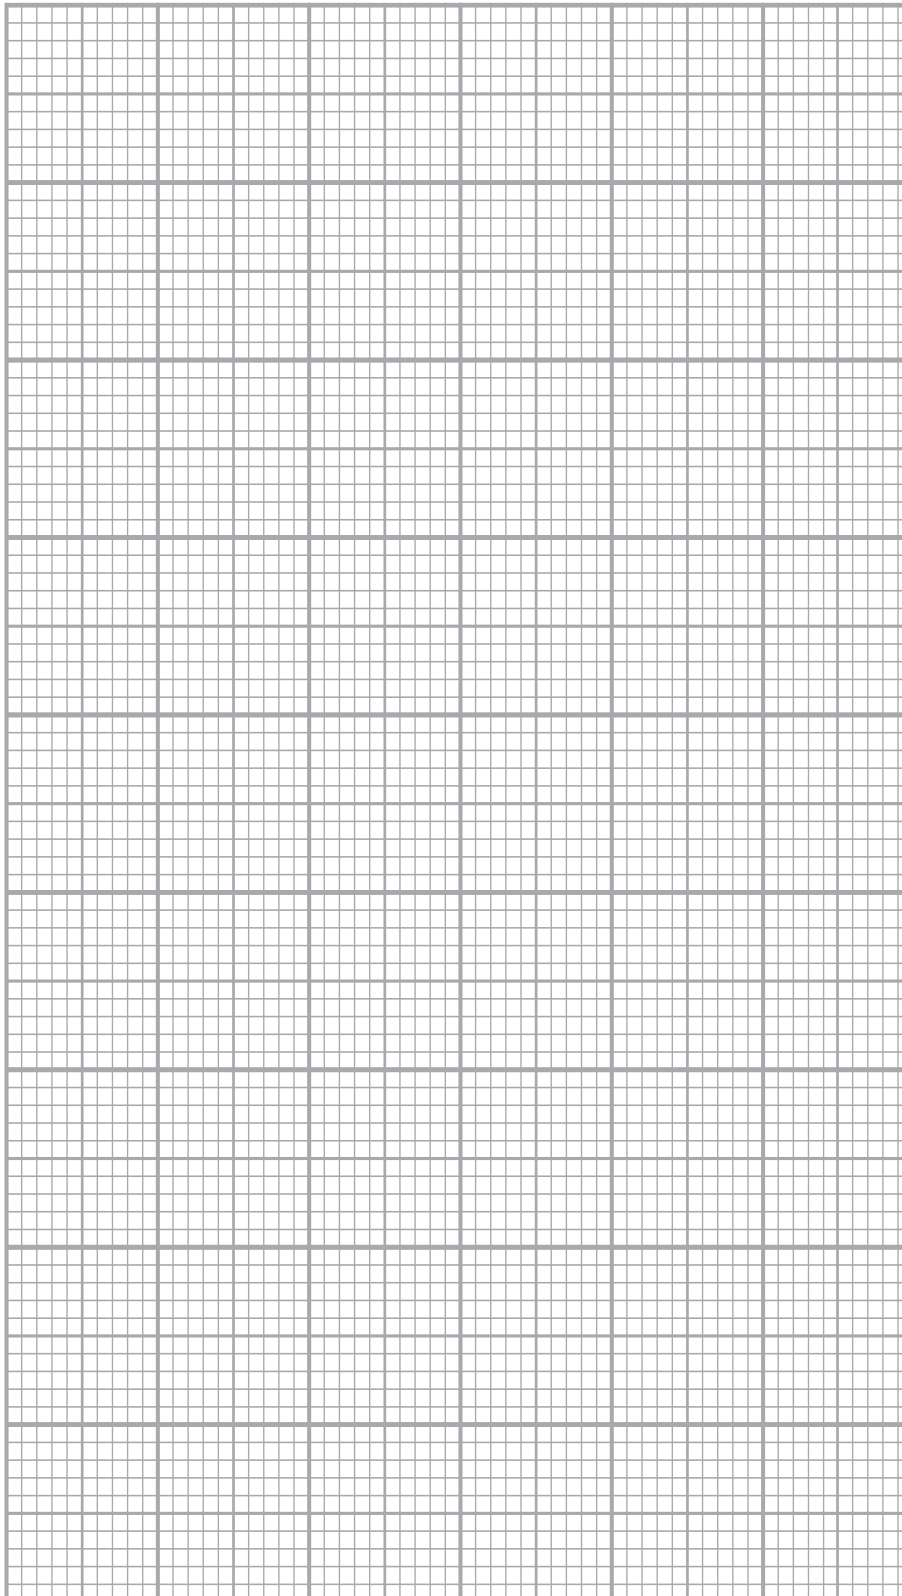

Fig. 1.2
- (ii) Plot a graph of T against \sqrt{h} on the grid of **Fig. 1.2** and draw the best fit straight line for the points plotted. [5]